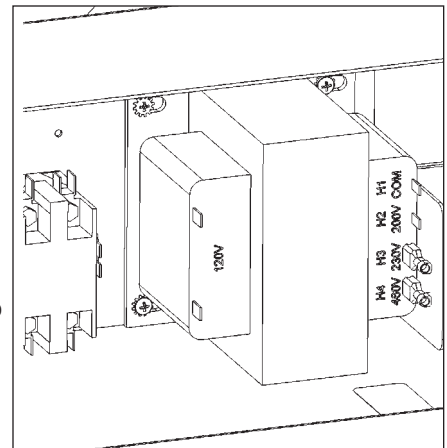

Figure 3
6. Remove lid and left side panel. (see Figure 3)